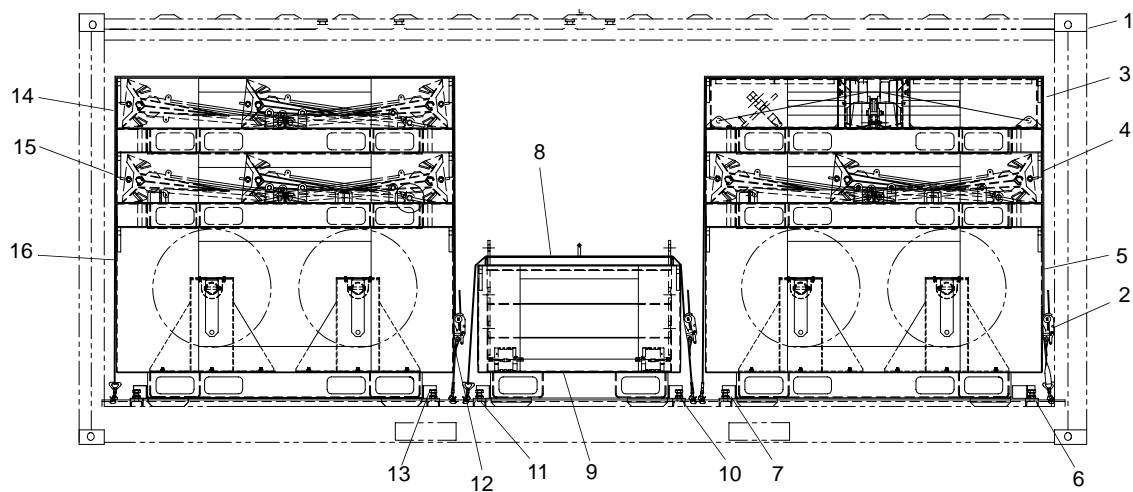
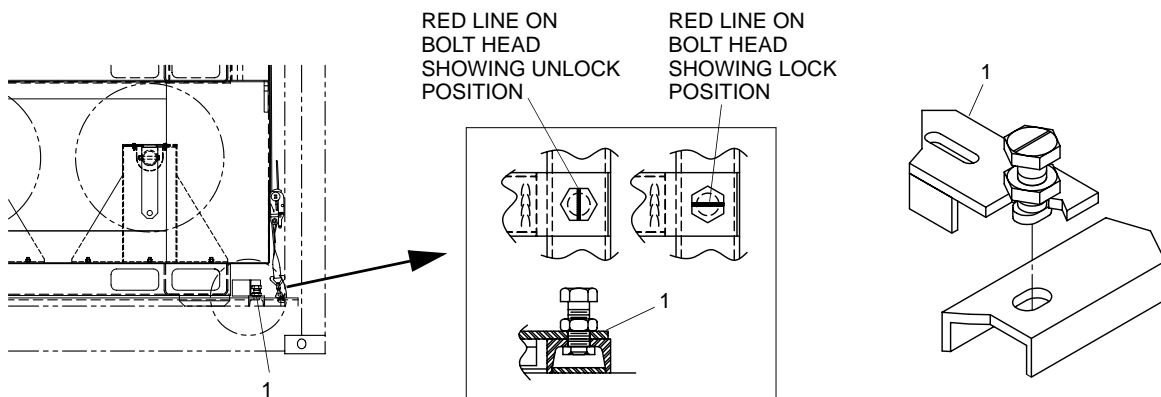

Figure 1. Onshore Anchor Container
Figure 2. Door End Track Stop and Locking Mechanism
1. Using crane, position onshore container (figure 1, item 1) on FC platform.
2. Unlatch and open container (figure 1, item 1) doors.
4. Loosen and unhook two tie down straps (figure 1, item 2) from door end of tracks. Pull the straps to each side of the pallet stack and lay them on the floor of the container so that they are out of the way.
The locking mechanism shown in figure 2 is typical of all track stops in the onshore anchor container.
5. Unlock and remove door end track stop (figure 2, item 1 and figure 1, item 6).
6. Using forklift, remove storage box pallet (figure 1, item 3) from onshore container (figure 1, item 1) and position on FC platform.
7. Using forklift, remove anchor pallet (figure 1, item 4) from onshore container (figure 1, item 1) and position on FC platform.
8. Using forklift, remove mooring cable pallet (figure 1, item 5) from onshore container (figure 1, item 1) and position on FC platform.
9. Unlock and remove the second track stop (figure 1, item 7). (See also figure 2.)
10. Unhook two tie down straps (figure 1, item 2) from tracks. Place the straps so that they are out of the way.
11. Loosen and unhook two tie down straps (figure 1, item 8) from tracks. Pull the straps to each side of the storage pallet (figure 1, item 9) and lay them on the floor of the container so that they are out of the way.
12. Unlock and remove the third track stop (figure 1, item 10). (See also figure 2.)
13. Using forklift and adapter, pull storage pallet (figure 1, item 9) to edge of container door.
14. Using forklift, remove hardware storage pallet (figure 1, item 9) from onshore container (figure 1, item 1) and position on FC platform.
15. Unlock and remove the fourth track stop (figure 1, item 11). (See also figure 2.)
16. Unhook two tie down straps (figure 1, item 8) from tracks. Place the straps so that they are out of the way.
17. Loosen and unhook two tie down straps (figure 1, item 12) from tracks. Pull the straps to each side of the pallet stack and lay them on the floor of the container so that they are out of the way.
18. Unlock and remove the fifth track stop (figure 1, item 13). (See also figure 2.)
19. Using forklift and adapter, pull pallet stack (figure 1, items 14, 15 and 16) to edge of container door.
20. Using forklift, remove upper anchor pallet (figure 1, item 14) from onshore container (figure 1, item 1) and position on FC platform.
21. Using forklift, remove lower anchor pallet (figure 1, item 15) from onshore container (figure 1, item 1) and position on FC platform.
22. Using forklift, remove mooring cable pallet (figure 1, item 16) from onshore container (figure 1, item 1) and position on FC platform.
33. Stow pallets and loose items in onshore anchor container (figure 1, item 1).
- a. Using forklift, place the lower anchor pallet (figure 1, item 15) on top of mooring cable pallet (figure 1, item 16).
- b. Using forklift, place the upper anchor pallet (figure 1, item 14) on top of the lower anchor pallet (figure 1, item 15).
- c. Using forklift, position the pallet stack (figure 1, items 14, 15 and 16) inside the container (figure 1, item 1) door.
- d. Using forklift and push-pull rod, push the pallet stack (figure 1, items 14, 15 and 16) to rear of container (figure 1, item 1), against track stop.
- e. Install and lock track stop (figure 1, item 13) in front of mooring cable pallet (figure 1, item 16). (See also figure 2.)
- f. Pull two tie down straps (figure 1, item 12) over the pallets and attach the loose ends to the floor track. Tighten tie down straps (figure 1, item 12).
- g. Install and lock hardware storage pallet track stop (figure 1, item 11) at the red marks on the floor track. (See also figure 2.)